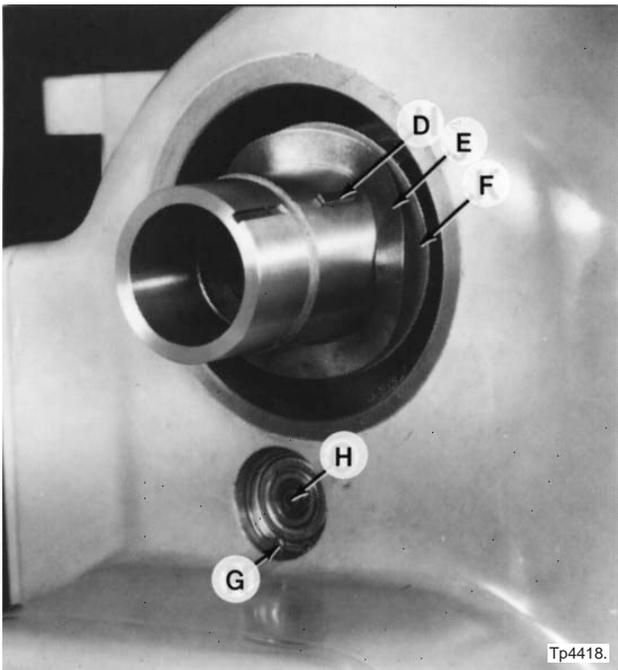
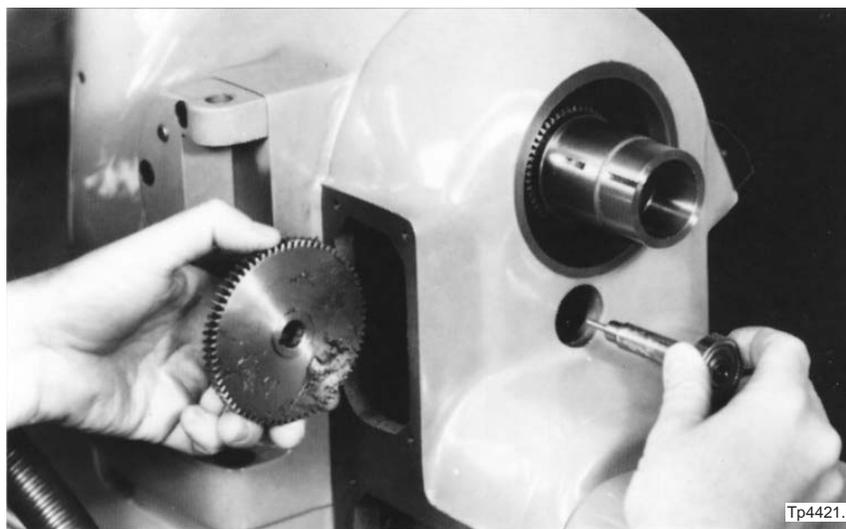

Figure 3.12 - Handwheel Washers and Key
Figure 3.15 - Idler Gear and Shaft Removal
24. Remove key "D", Figure 3.12, and washers "E" and "F".
28. Remove snap ring "G", Figure 3.12.
29. Turn push screw "H", Figure 3.12 clockwise to remove the gear, shaft, and bearing, as shown in Figure 3.15.
45. Back off push screw "H", Figure 3.12, counterclockwise to replace the gear, shaft, and bearing, as shown in Figure 3.15 .
46. Replace snap ring "G", Figure 3.12.
50. Replace washers "F" and "E", Figure 3.12, and key "D".